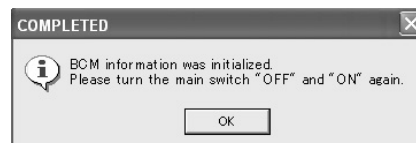

Fig.118
- By clicking the “OK” button, the initialization of BCM information is completed. Click the “OK” button (Fig.118), turn “OFF” the engine switch (main switch) and turn it “ON” again.